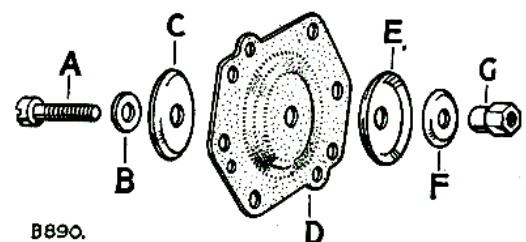

Fig. M-5—Layout of accelerator pump membrane assembly,
5. Fit the operating rod to the new membrane (Fig. M-5), taking care not to twist the membrane when tightening the securing nut. Secure the nut by staking.